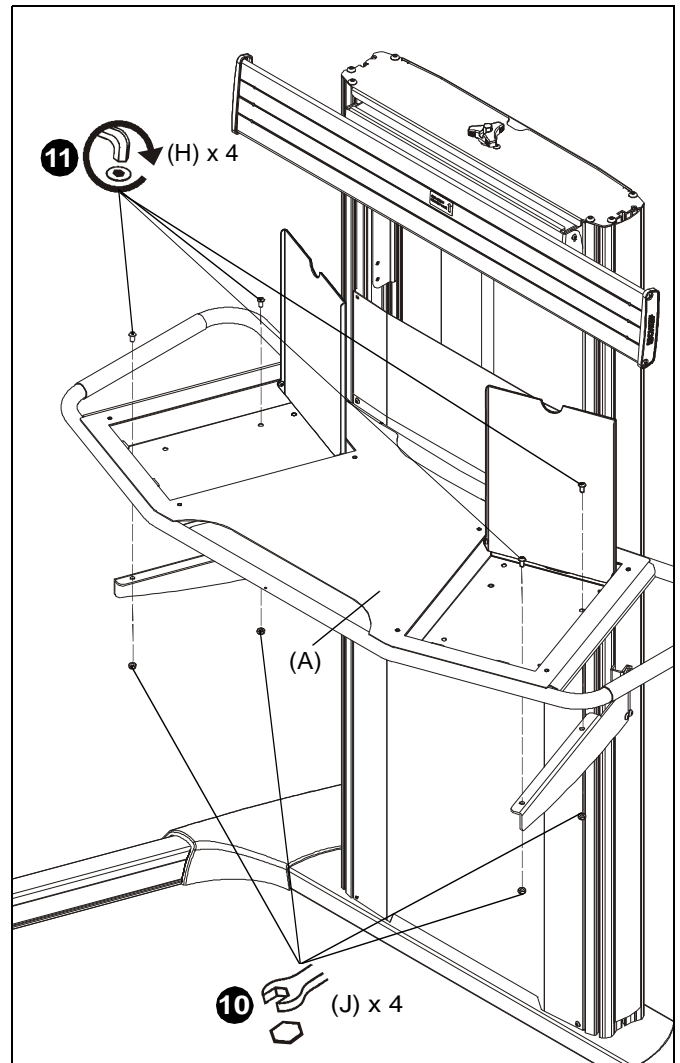

Figure 7
11. Open storage tray lids and use four 1/4-20 x 1/2" button head cap screws (H) and four 1/4-20" lock nuts (J) to secure large storage shelf (A) to shelf supports (B and C). (See Figure 7)